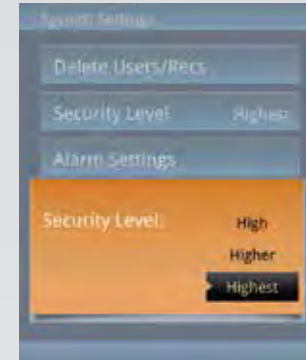

Fig 7.03-1
- c) From the System Settings menu, use the **▲** or **▼** keys to highlight the Security Level menu option. Touch **OK** to access the Security Level: menu. (**Fig 7.03-1**)